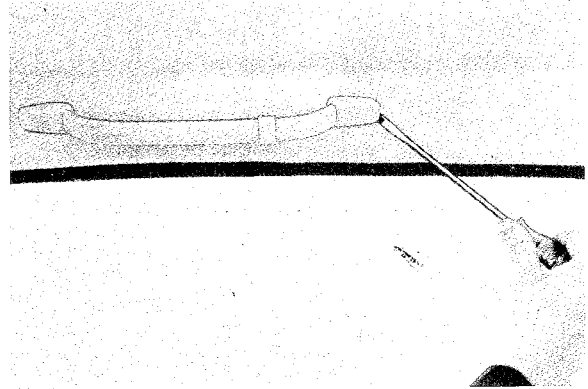

Fig. 8-67. Removing grab handle
10. Remove the grab handle and attachments over the door on the driver's side. By bending loose the trim cover (Fig. 8-67) it is then possible to get at the screws.